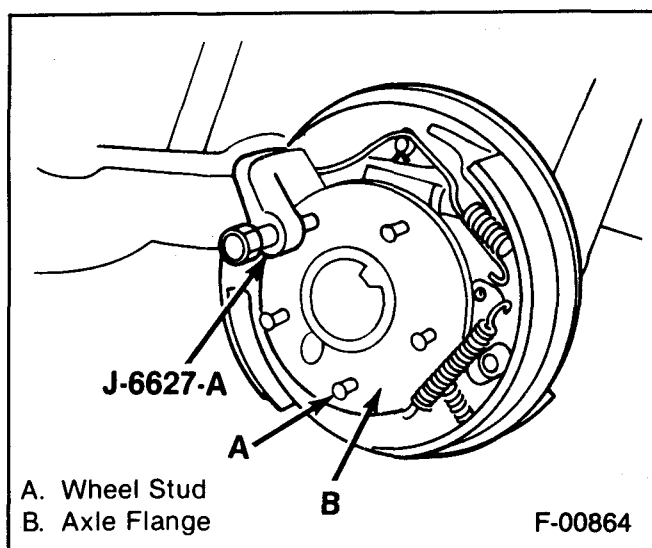

Figure 15—Pressing Out A Wheel Stud
2. Stud from the axle flange using J-6627-A (figure 15).
1. Stud in the axle flange hole. Refer to figure 15.